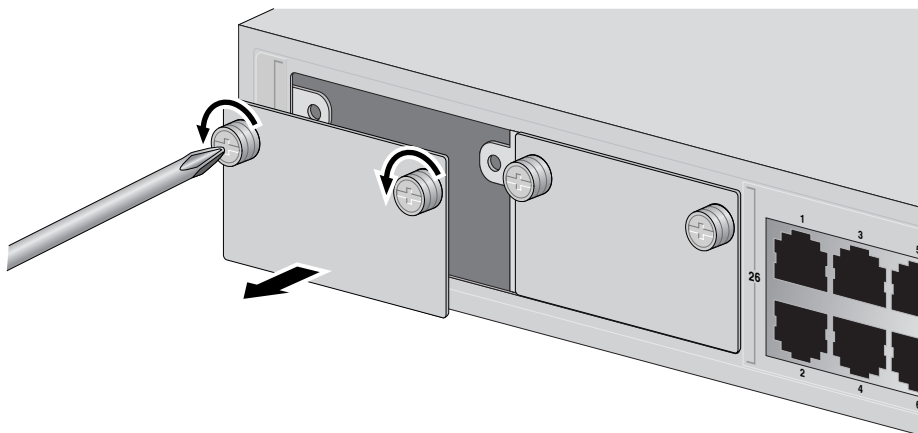

Figure 23. Removing the Expansion Slot Faceplate
4. To remove the expansion slot faceplate, use a Phillips screwdriver to carefully loosen the installation screws found on the left and right sides of the faceplate, as displayed in Figure 23.